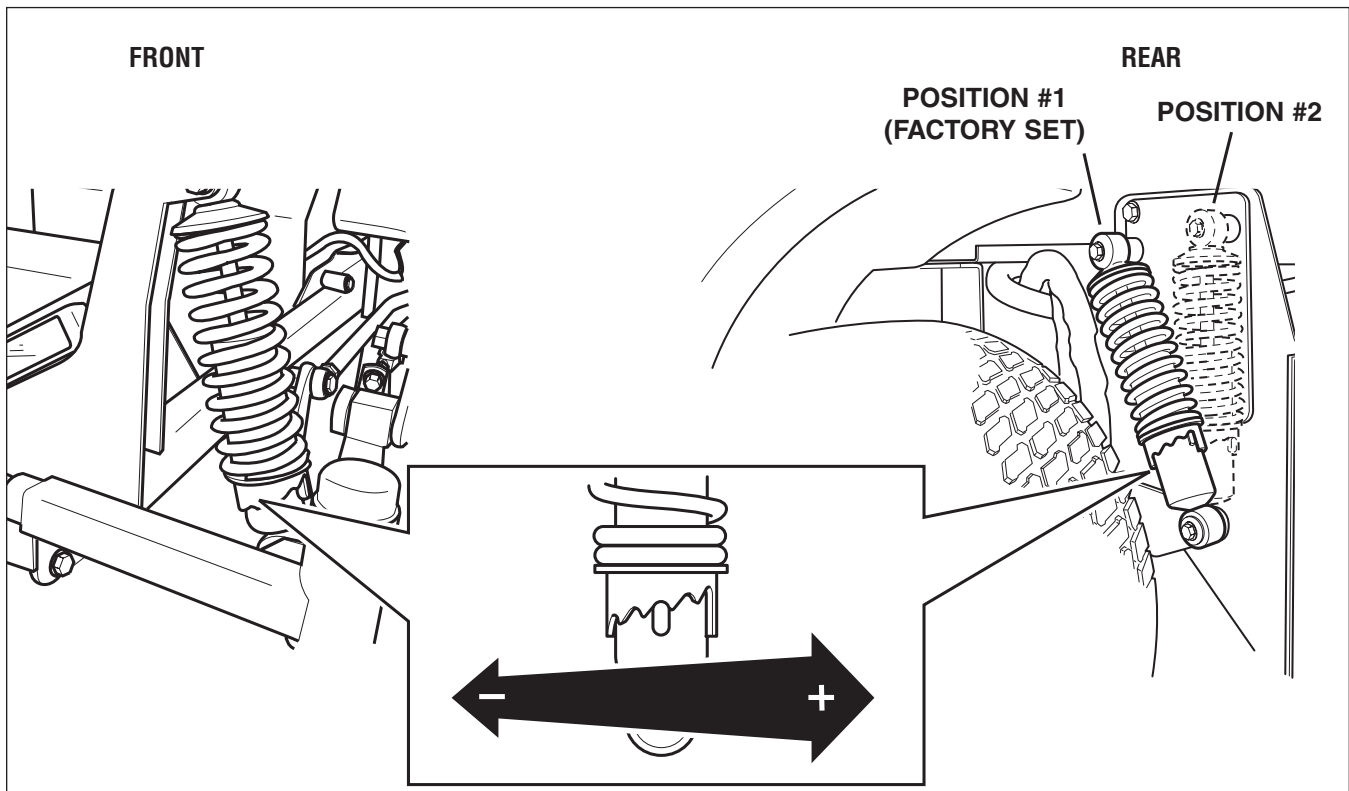

Figure 34. Suspension Adjustment
2. See Figure 34. Using the supplied spanner wrench (p/n 5022853), insert the tip of the wrench into the notch in the pre-load adjuster. While holding the wrench with both hands, turn CLOCKWISE to decrease the pre-load, turn COUNTER-CLOCKWISE to increase the pre-load. Make sure that for each pair of shocks that the left-hand and right-hand are set to the same amount of pre-load.
4. Remove the upper shock mounting hardware and pivot the shock to the position #2 (see Figure 34). Adjust the jack to align the shock mounts to the shocks.